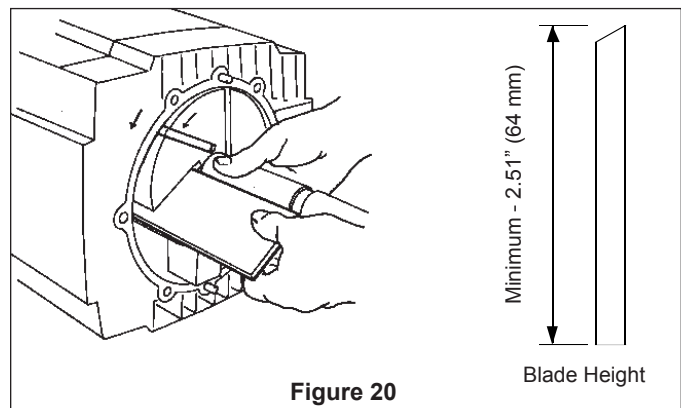
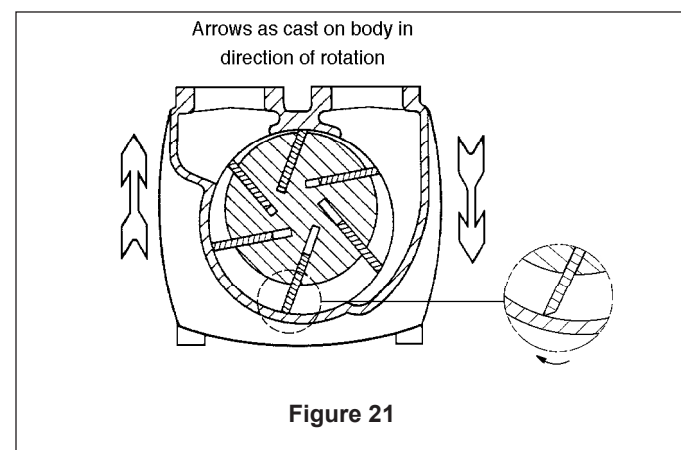

Figure 20
Figure 21
- Remove blades (5) for inspection. Blades must be replaced if chipped or if the width of the blade has worn below 2.51" (64mm). Under no circumstances must the blades be used under 2.28" (58mm). See Figure 20. When replacing blades, make sure they are inserted into the rotor slots in the correct position as shown in Figure 21. The angle of the blade tip must match the arrows on the body bore.